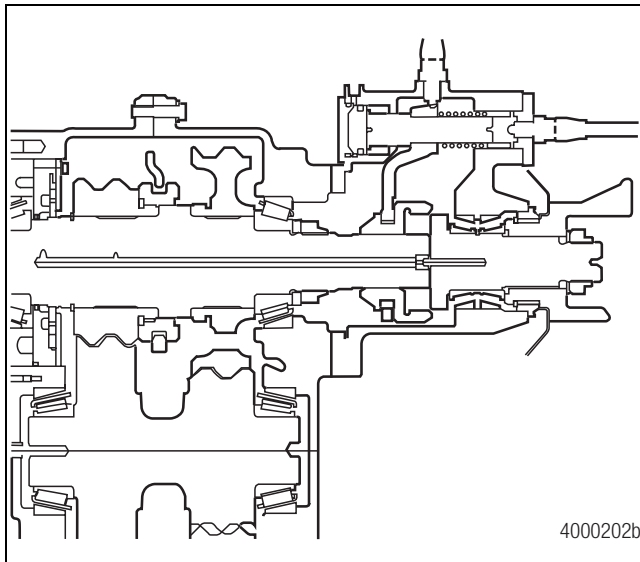

Figure 4.9
1. Rotate the transfer case in the repair stand so that the PTO assembly, if so equipped, is facing UPWARD. Figure 4.9.